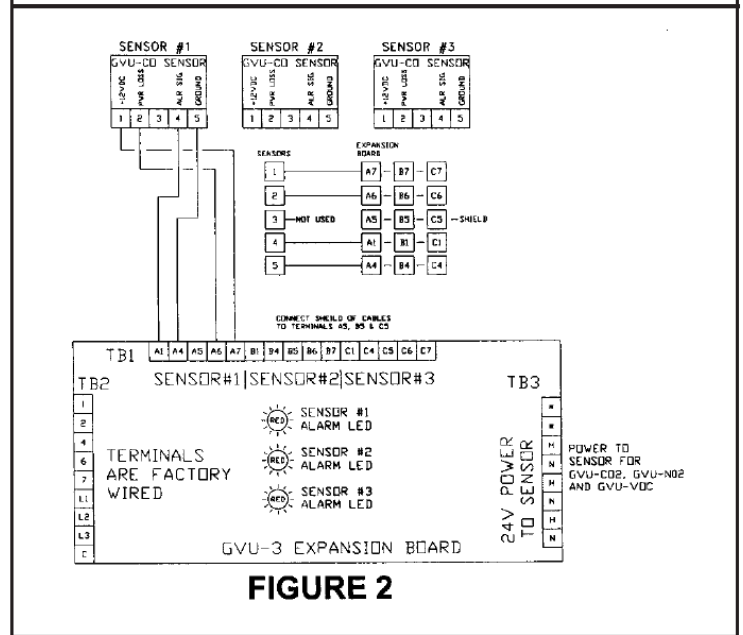

FIGURE 2
NOTE: Refer to Figures 2 and 3 and Tables 1 and 2. Use shielded cable to interconnect sensors and control units if metal conduit is not used, or if conduit also contains AC wiring.
- 2) Run wiring between controller and sensing units and into enclosure through access holes. Connect wires from terminal blocks in sensing unit to appropriate sensor # terminal (TB-1 of GVU-3 expansion board) in control unit per figure 2 and/or 3.
TABLE 2 (Refers to Figures 2 and 3)